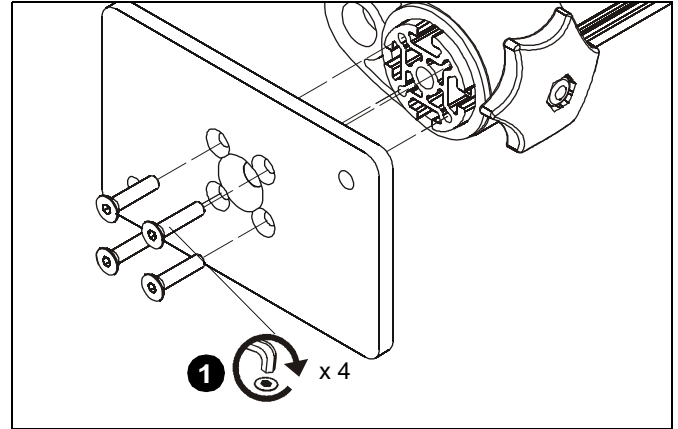

Figure 3
2. Use four screws removed in Step 1 to attach pole adapter (A) to column. (See Figure 3)